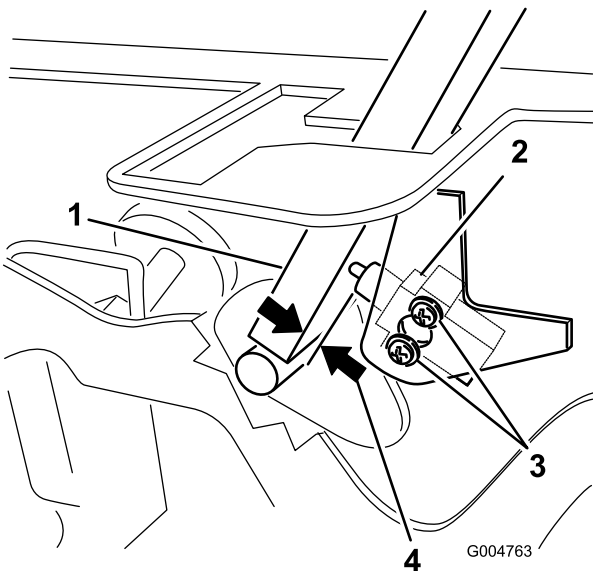

Figure 59
3. Loosen the 2 screws securing the interlock switch (Figure 59).
and switch body is 0.4 to 1 mm (0.015 to 0.045 inch) (Figure 59).